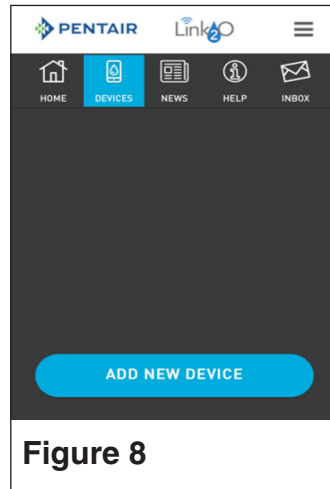

Figure 8
1. Access the Devices tab at the top of the screen. See **Figure 8**.
2. Press the Add New Device button at the bottom of this screen. See **Figure 8**.